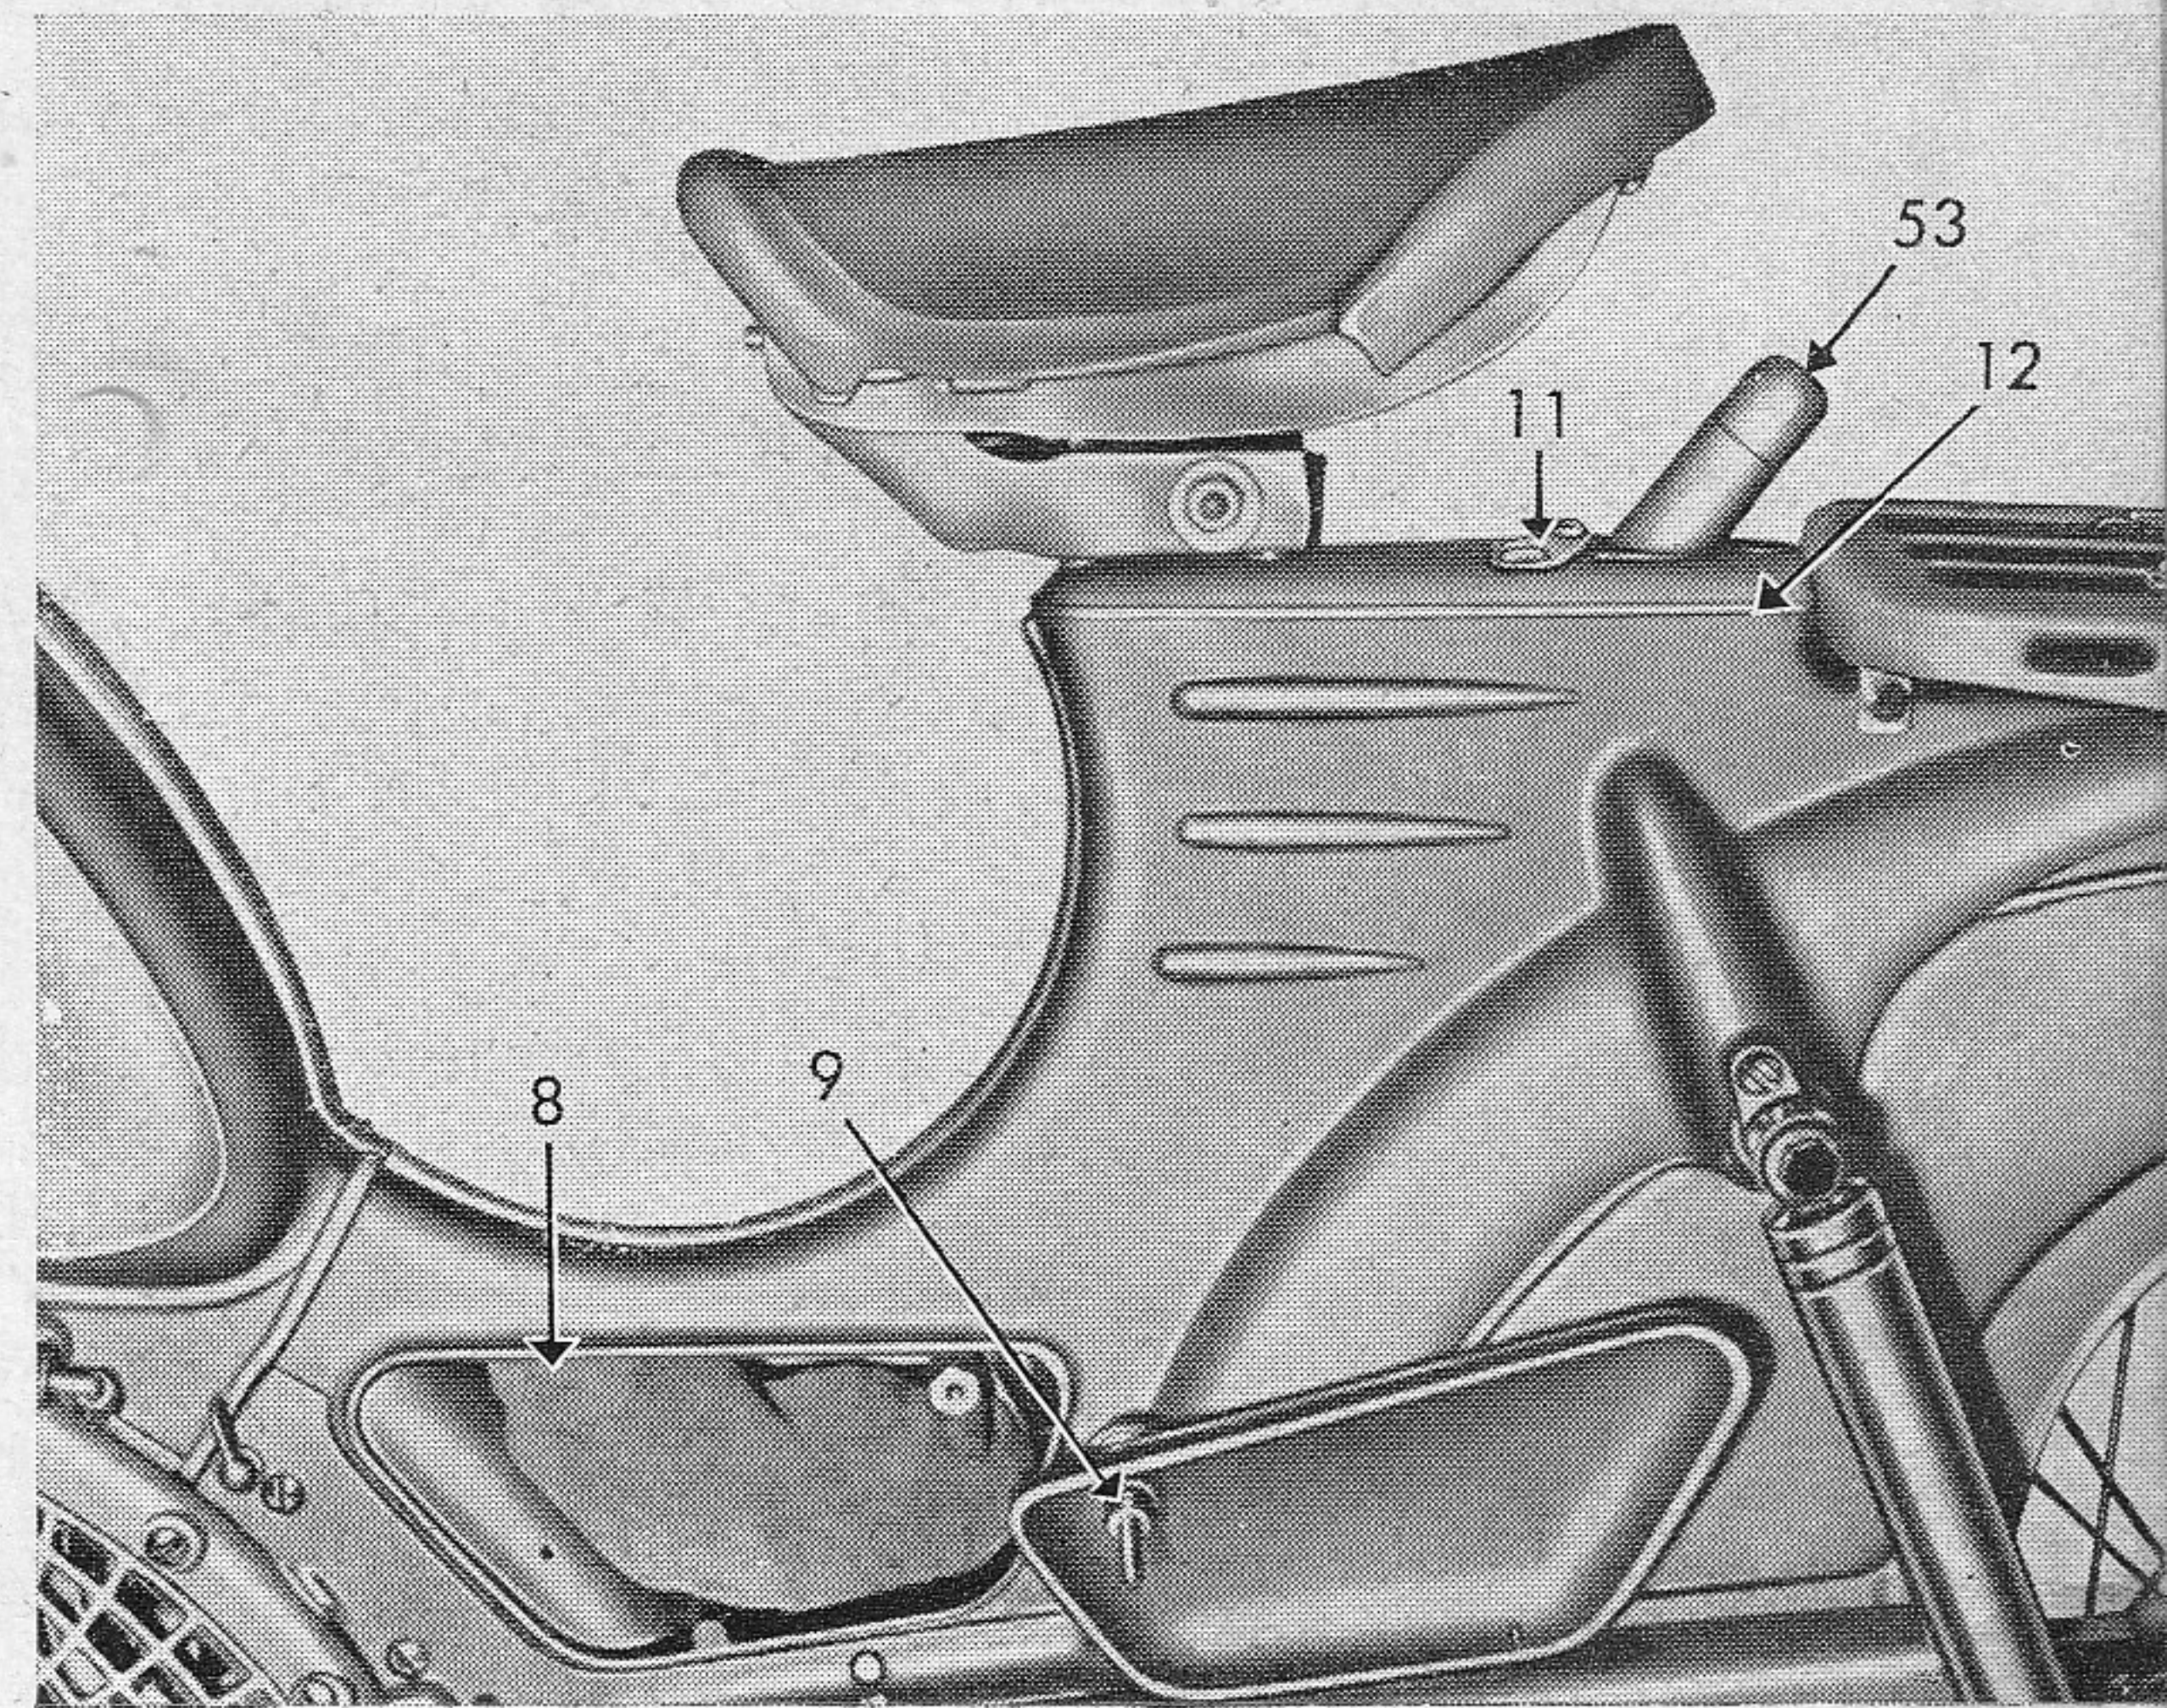

Fig. 3
- e) The **tool box** 8 (fig. 3) is mounted in the centre of the machine. To take off the cover, first remove the knurled nut 9. A handle for lifting the machine is fitted to the right-hand side. Fig. 3 shows the tool box with cover taken off.
- f) **Tyre pressure** for a load of approx. 165 lb should be approx. 17.5 lb/sq. in. on the front wheel and approx. 26.5 lb/sq. in. on the rear wheel. Tyres can be pumped up either from the tyre pump at the filling station or by means of the air pump 53 supplied with the machine (fig. 3). The pump is protected by a cover 11 which swivels on mounting plate 12. Swing the cover aside to take out the pump.
Adjusting the saddle for a comfortable ride (fig. 3):